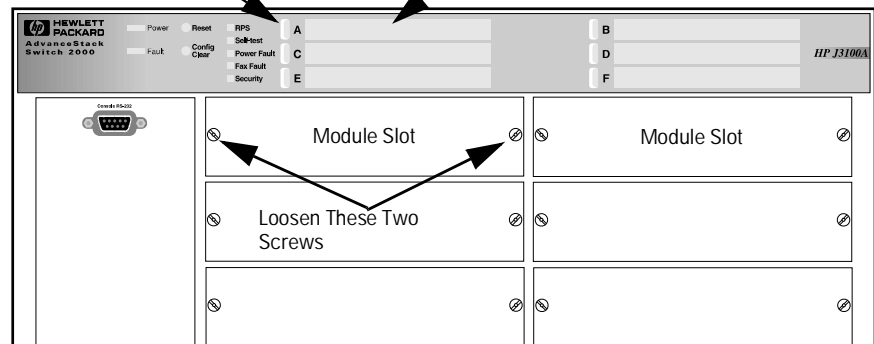

Figure 2. Remove the Cover Plate from an Unused Switch Port
1. Slide out the blank LED label strip from the label slot on the switch's brow corresponding to the physical slot in which you will install the module. (See figure 2.)
3. Using a Torx T-10 or slotted screw driver, unscrew the screws in the cover plate over the slot you want to use, and remove the cover. Store the cover plate with its screws for possible future use. For example, to install a module in slot A, see figure 2.